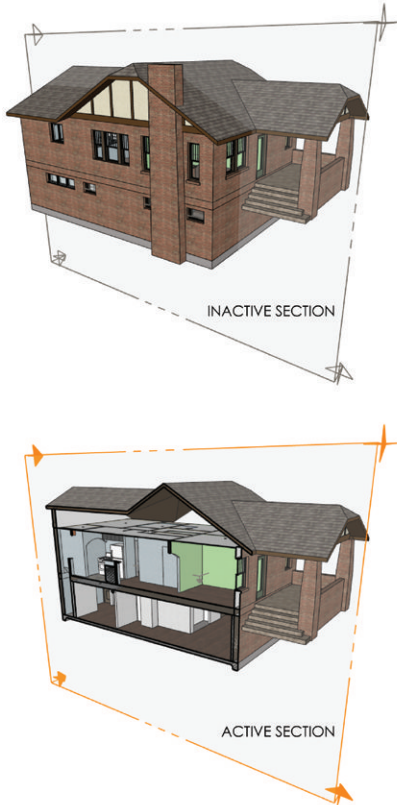

Figure 20.24 The Section plane location
- ☑ Place the building section plane at the base level of the model (Figure 20.24).